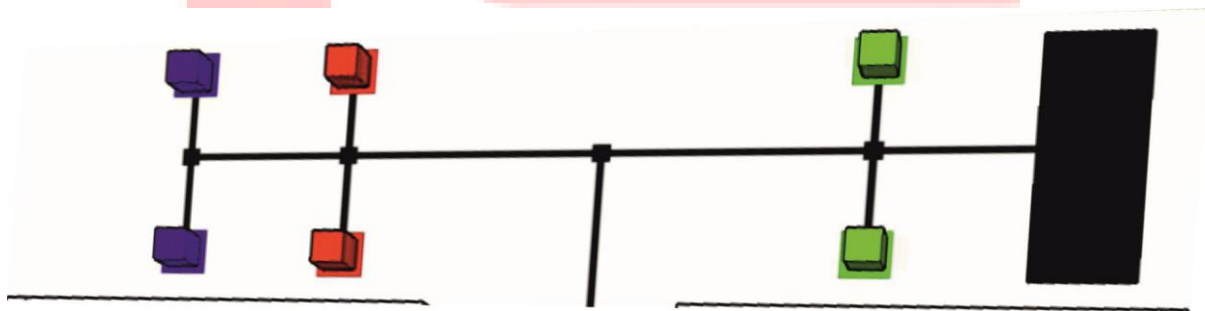

Figure 2: Service Area
- Thermocol blocks of three colors Red (R), Blue (B) and Green (G) are used to represent types of **Services**. These blocks are placed in the **Service Area** as shown in Figure 2.
- Within the Service Area there is a **Garbage Dumping Section** marked in black (Refer to Figure 2) where all the collected Garbage should be dumped.